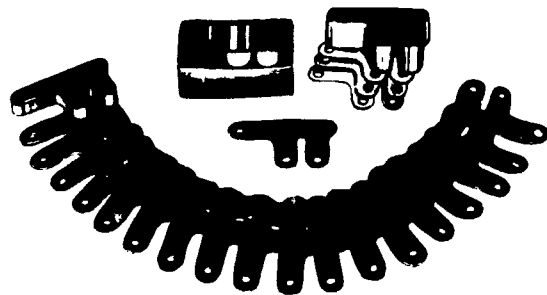

Figure 3-17. Stack sawed parts
**Stack Sawing.** Stack sawing is the sawing of several pieces of sheet material of the same shape in one operation, as shown in figure 3-17. This method of duplicating identical parts saves time, especially when not too many pieces are needed and when the job does not warrant the manufacture of a blanking die. The number of pieces that may be stack sawed is limited by the capacity of the machine. The capacity of the machine for sawing duplicate pieces is the same as for sawing solid material. This operation can be best applied to flat pieces of sheet stock since it is necessary to stack one piece on another. After the material has been stacked, it must be fastened together to hold it during the sawing operation. For larger work, rather than relying on the weight of each piece for the close contact desired, it is best to place the stack in an arbor press. Holes may be drilled on the waste section of a stack and the stack bolted or welded together to hold the work for the sawing operation. Small stacks for small parts can be placed in a vise and fastened together by soldering. You must decide from the nature of the work which method is best suited for fastening the pieces together. If bolts are used, the heads may interfere and not allow the workpiece to lay flat on the machine table. The heads should be countersunk flush with the bottom piece of work to prevent chatter. (NOTE: Keep the thickness of the stack in proportion to the size of the base so that it will not become top heavy, difficult to handle, or dangerous to the operator.) The thickness of the stack should be no greater than the width.
**Exercises (233):**